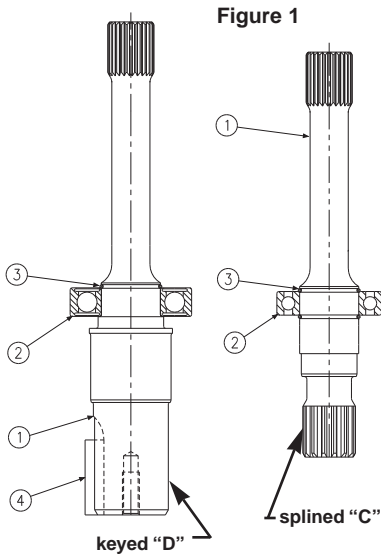

Figure 1
See Figure 1. Pass one retaining ring (3) over the internal end of drive shaft (12) and install in the groove nearest the shaft seal surface. Caution: Do not pass the ring over the seal surface. ("SAE-C" shafts only)
**PARTS LIST FOR FIGURE 1**